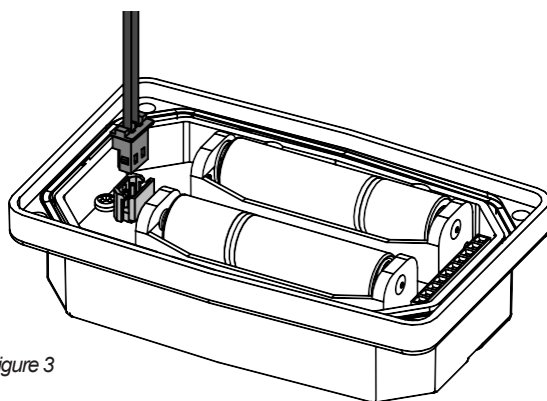

Figure 3
5. Place the battery pad into the computer mount cavity, connect the coil wire to the computer (see Figure 3), and mount the computer. Fasten the computer to the turbine through the four corner holes in the faceplate using the screws provided (4-40 x 3/8" for metal body turbines or 4-20 x 3/8" for plastic body turbines). Make sure the seal is fully seated in the computer housing groove before tightening the screws.